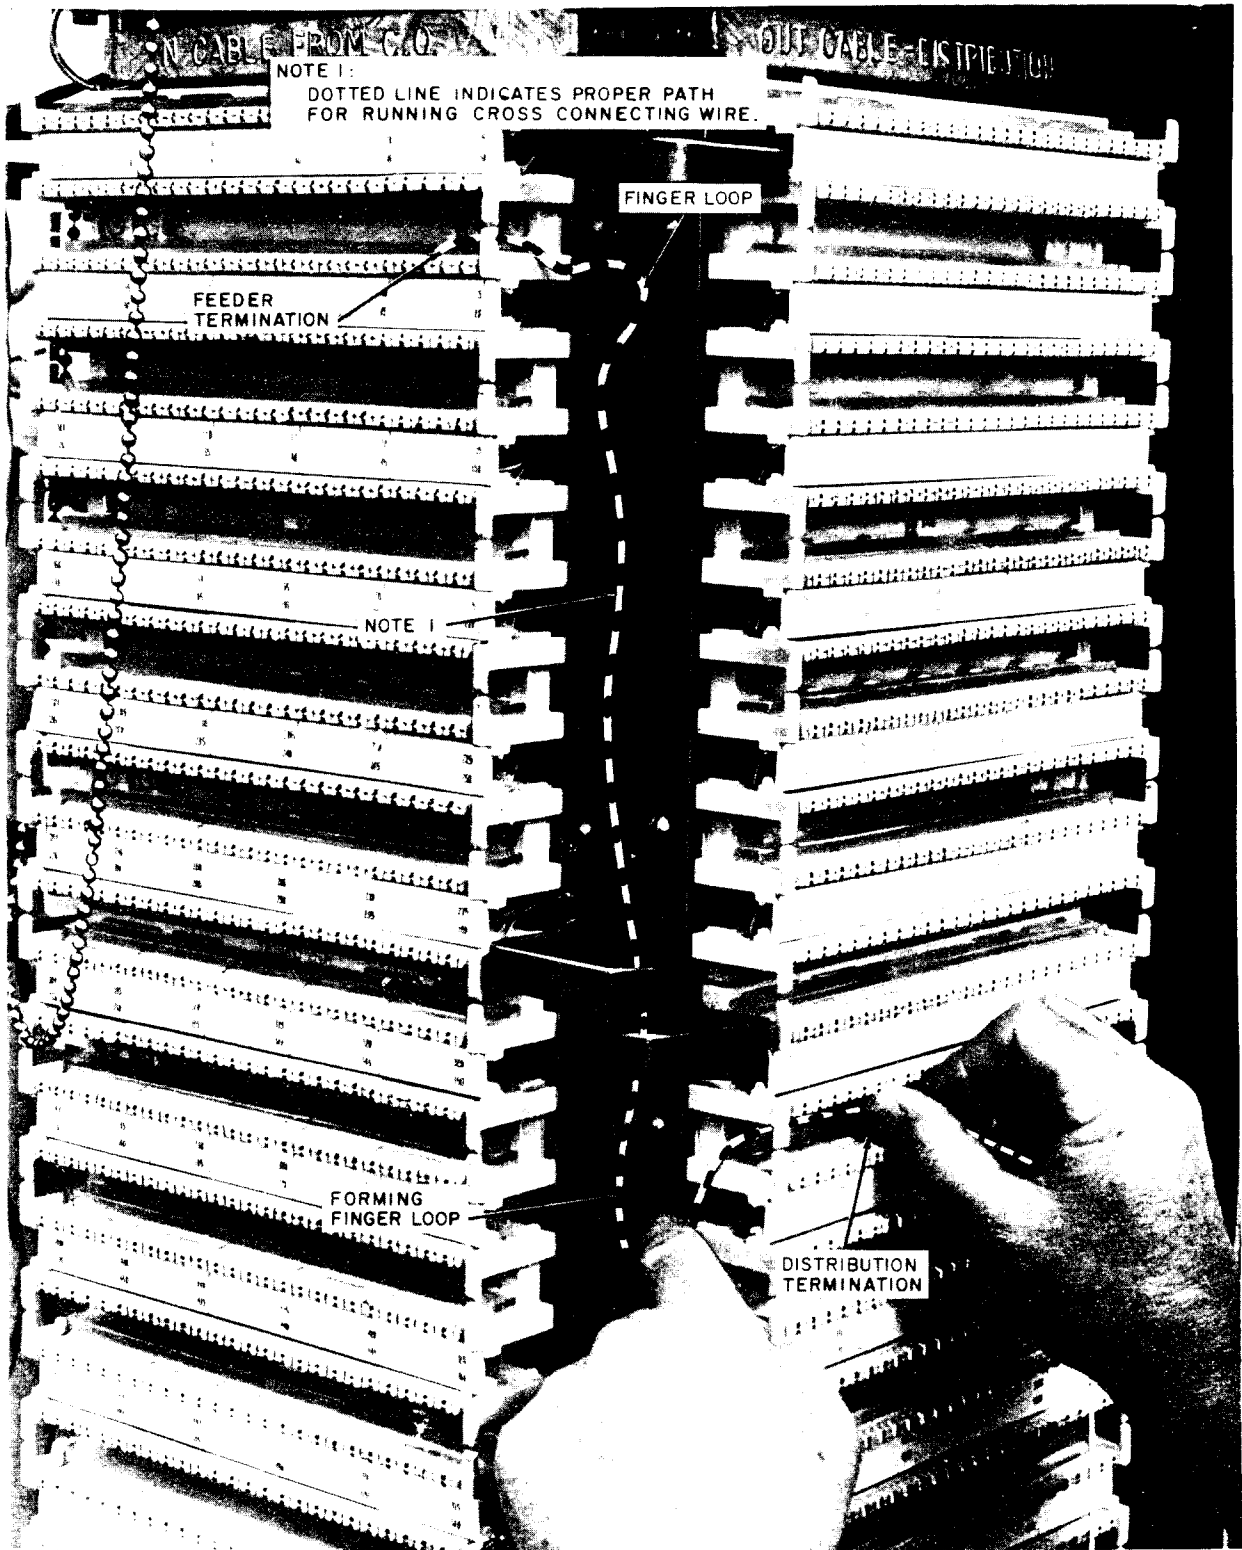

Fig. 6—Cross-Connecting Wire Run
3.03 Route the wires as indicated by the dotted lines in Fig. 6 to the assigned distribution cable pair. *Form a finger loop to allow a sufficient amount of slack.*